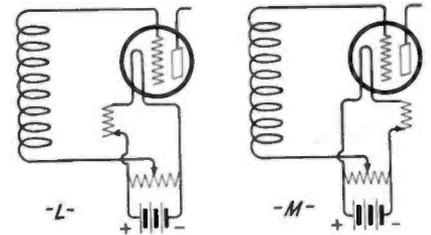

Figure 7.—The connection for positive and negative grid bias
If we place a rheostat in series with the filament as at (L) figure 7, then, when the slider is at the negative side of the resistance there will be no voltage difference between the negative terminal and the slider; but if we shift the rheostat to the negative side of the line as at (M) figure 7, the slider does not touch the negative terminal and there is a difference of voltage equal to the drop of voltage across the rheostat. Say the tube were a UV-201A and the rheostat of 4 ohms value so that the terminal voltage across the tube was proper—namely, 5 volts, then there would be a drop of one volt across the rheostat—assuming the battery to be 6 volts. If the grid return were connected to the slider, the grid voltage could be varied from negative 1 with respect to the negative terminal of the filament, up to positive 5. Look at this carefully and apply some of the rules given above to “doping it out.”